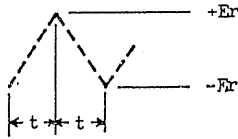

Figure 4-4
Denoting by I the constant current with which the integrating capacitor C is charged and discharged, by $\pm E_r$ the reference voltage of the voltage comparator, and by t the period from $+E_r$ to $-E_r$ as shown in Figure 4-4, equation (1) can be written.